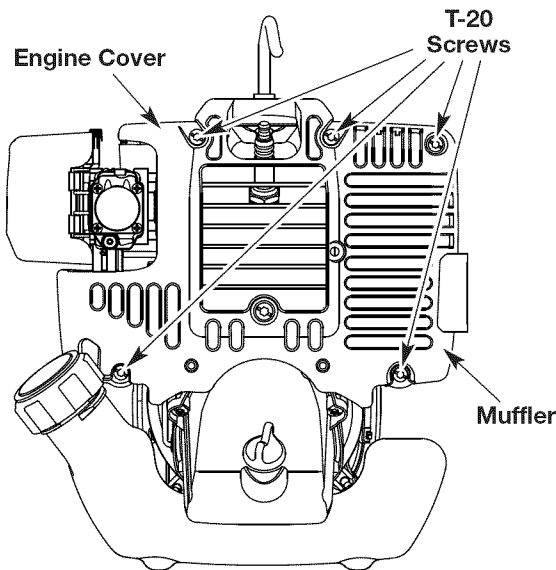

Fig. 23
1. Remove the five (5) screws with a Flat-head or T-20 Torx screwdriver (Fig. 23).